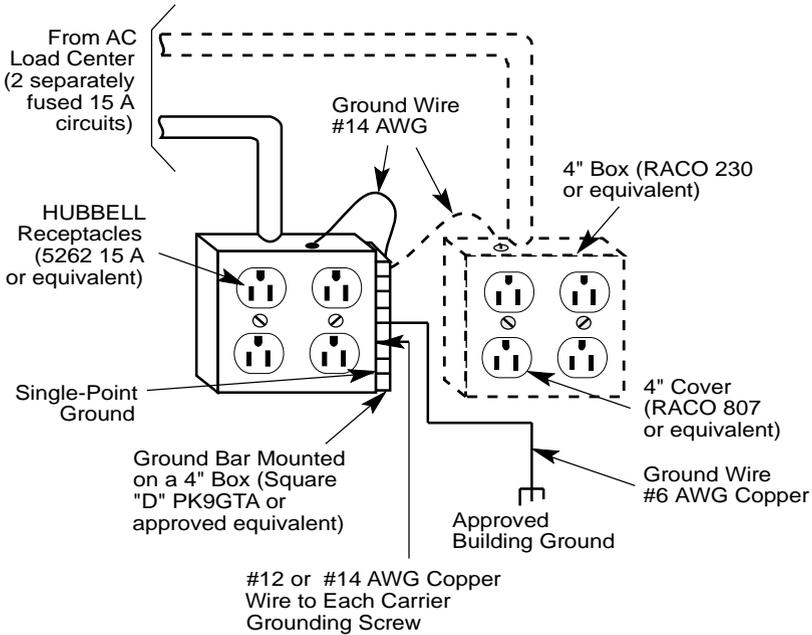
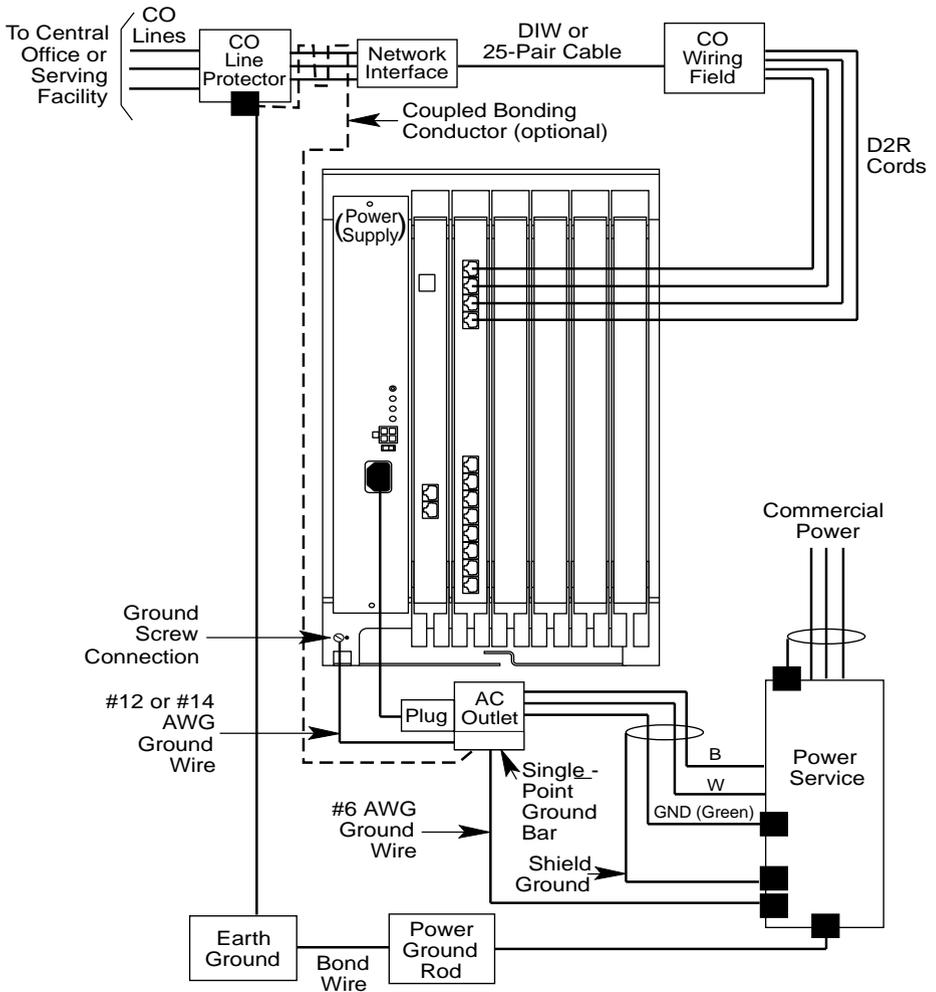

Figure 2-1. AC Grounding Requirements
Figure 2-3. Central Office and AC Grounds
- All AC outlets must connect to the same load center and the ground wire must connect to the single-point ground bar on the first AC outlet (see Figure 2-1).
- One outlet must have an attached ground bar connected by a #6 AWG copper wire to an approved ground (see “Approved Grounds” later in this chapter, for a description of approved grounds). This ground bar is the system’s single-point ground (see Figure 2-1).
- *Because equipment can be located throughout a building, the National Electrical Code requires that the ground point for the central office trunk protector be bonded to the AC power ground as shown in Figure 2-3.*
- *The AC outlet and the single-point ground bar must be properly grounded as shown in Figure 2-1 and Figure 2-3.*
- *Each control unit ground-screw terminal must be connected to the single-point ground bar by a #12 AWG or a #14 AWG solid copper wire. Figure 2-1 and Figure 2-3 show this connection.*